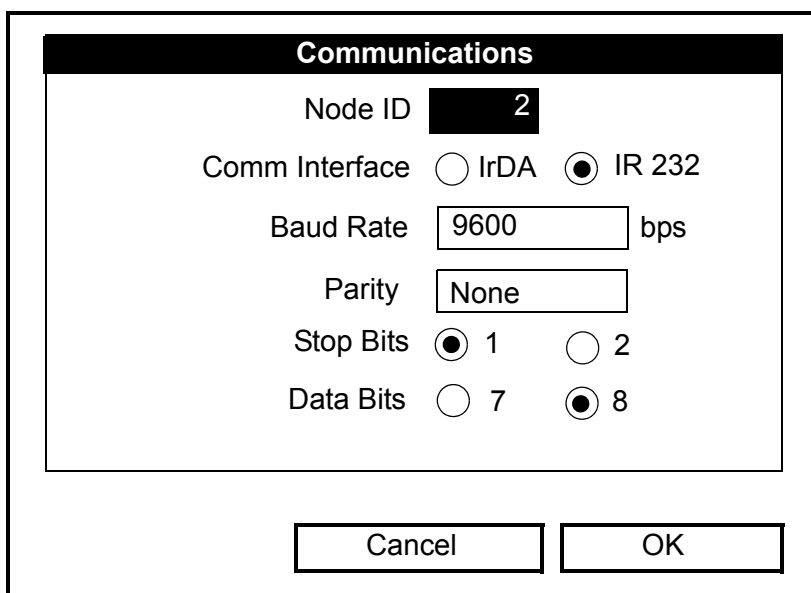

Figure 3-17: The Communications Window
2. Scroll to the *Communication* option and press [ENTER]. The *Communications* window opens (see Figure 3-17 below).